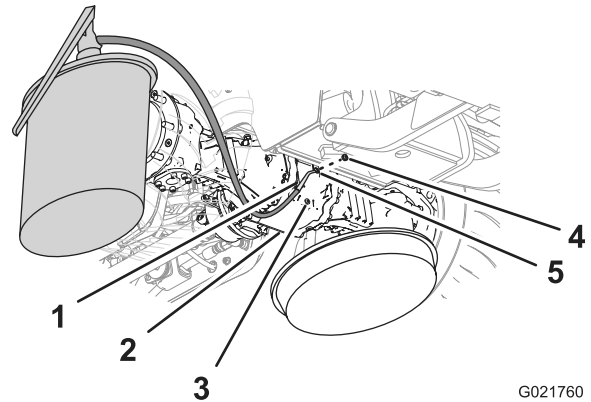
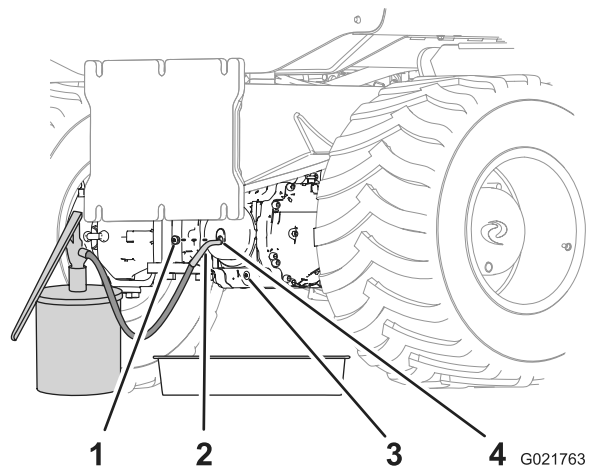

Figure 70
Figure 71
5. Install one of the plugs into the drain port (Figure 70 and Figure 71).
6. Fill the pinion housing and axle with the specified oil through the sight port until the oil is level with the threads at the bottom of the port (Figure 70 and Figure 71).
8. Install the remaining plug into the sight port of the pinion housing (Figure 70 and Figure 71).